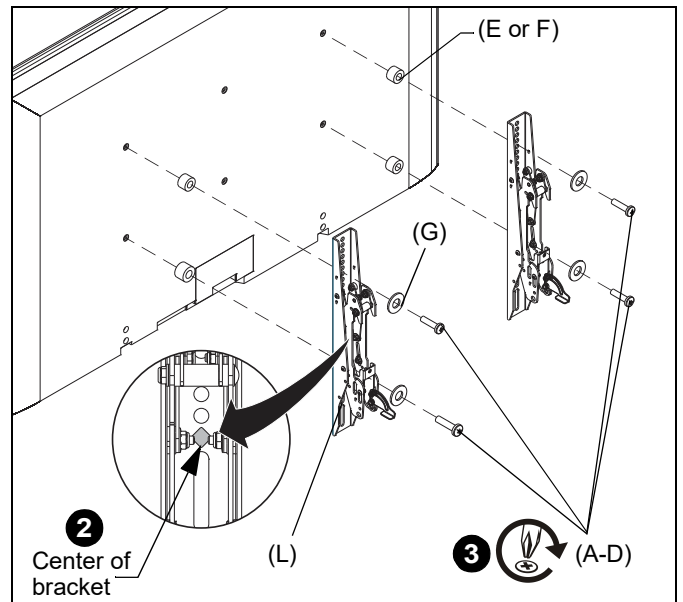

Figure 8
- Align the center of the interface bracket (L) with center of screen. (See Figure 8)
- Select correct screws, spacers (if necessary) and washers from the hardware bag (A-G) and attach brackets (L) to back of screen. (See Figure 8)